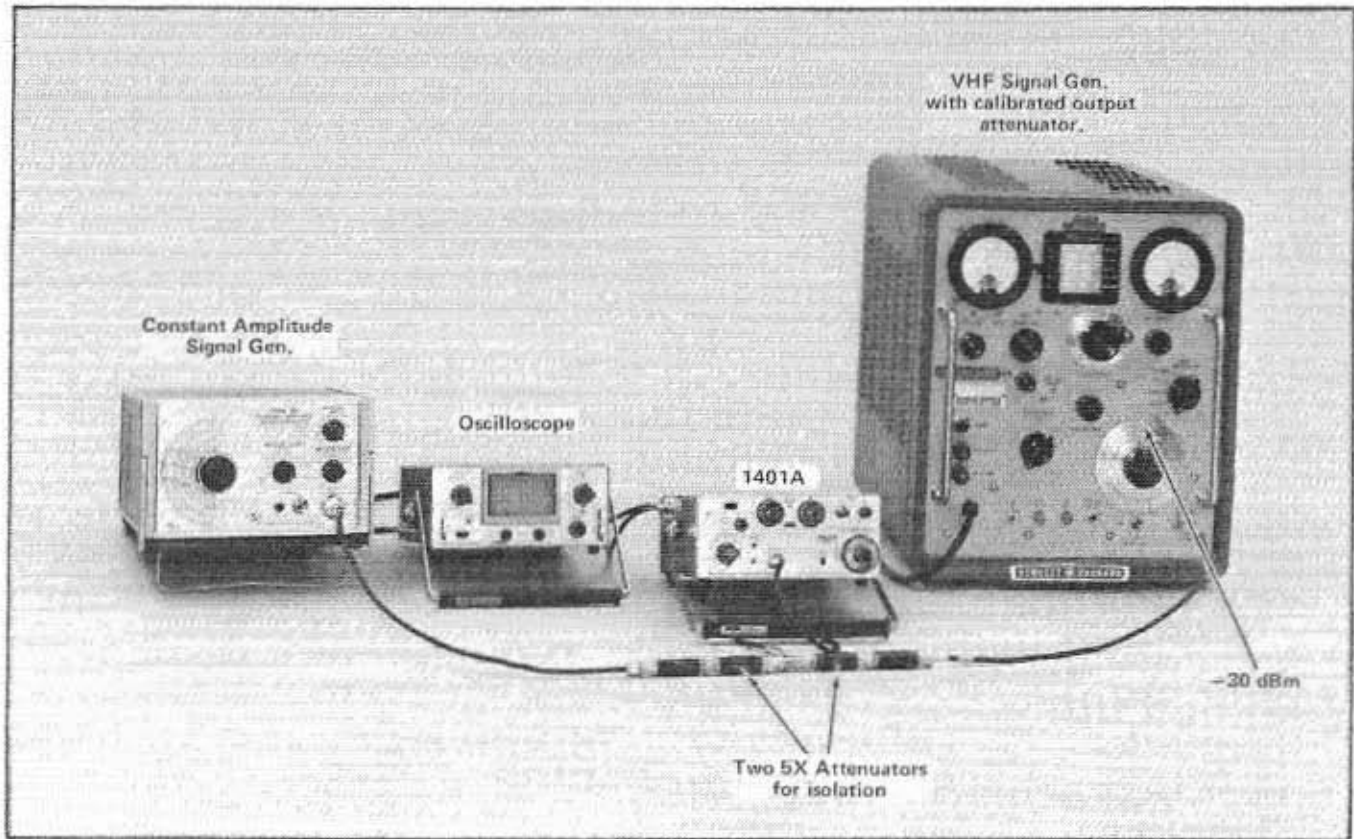

Fig. 5-6. Equipment setup to check intermodulation distortion.
d. Apply signals of 90 MHz and 110 MHz or any two signals down to 1 MHz separation from two signal generators through two 5X attenuators for isolation then through a BNC "T" connector to the 1401 INPUT. See Fig. 5-6.